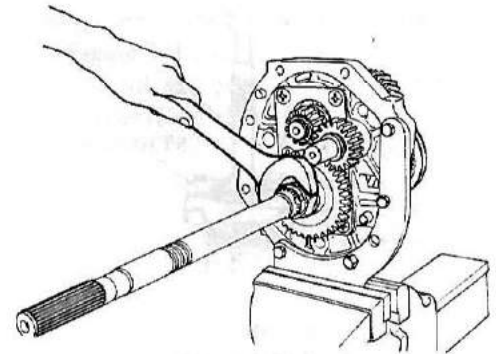

Fig. TM-15 Removing mainshaft nut
5. Release caulking on mainshaft nut and loosen it. See Figure TM-15.